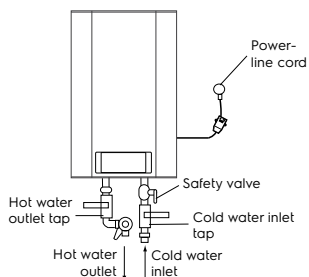

Figure 9
1. Installation of water heaters of Fmx EEC, FmxDL EEC series is greatly facilitated by the ability to install them both vertically and horizontally anywhere in your house, in a heated (!) room. It is advisable to install the water heater as close as possible to the point of use of hot water, because the shorter the length of the pipes, the less heat loss is. As shown in Fig. 9, when installing the water heater horizontally, the supply pipes must be located on the left. When installing the water heater next to a wall, leave the recommended clearance for maintenance. Do not install the water heater on a horizontal surface and close to the floor.
3. The safety valve should be mounted at the water inlet (see figure 9).